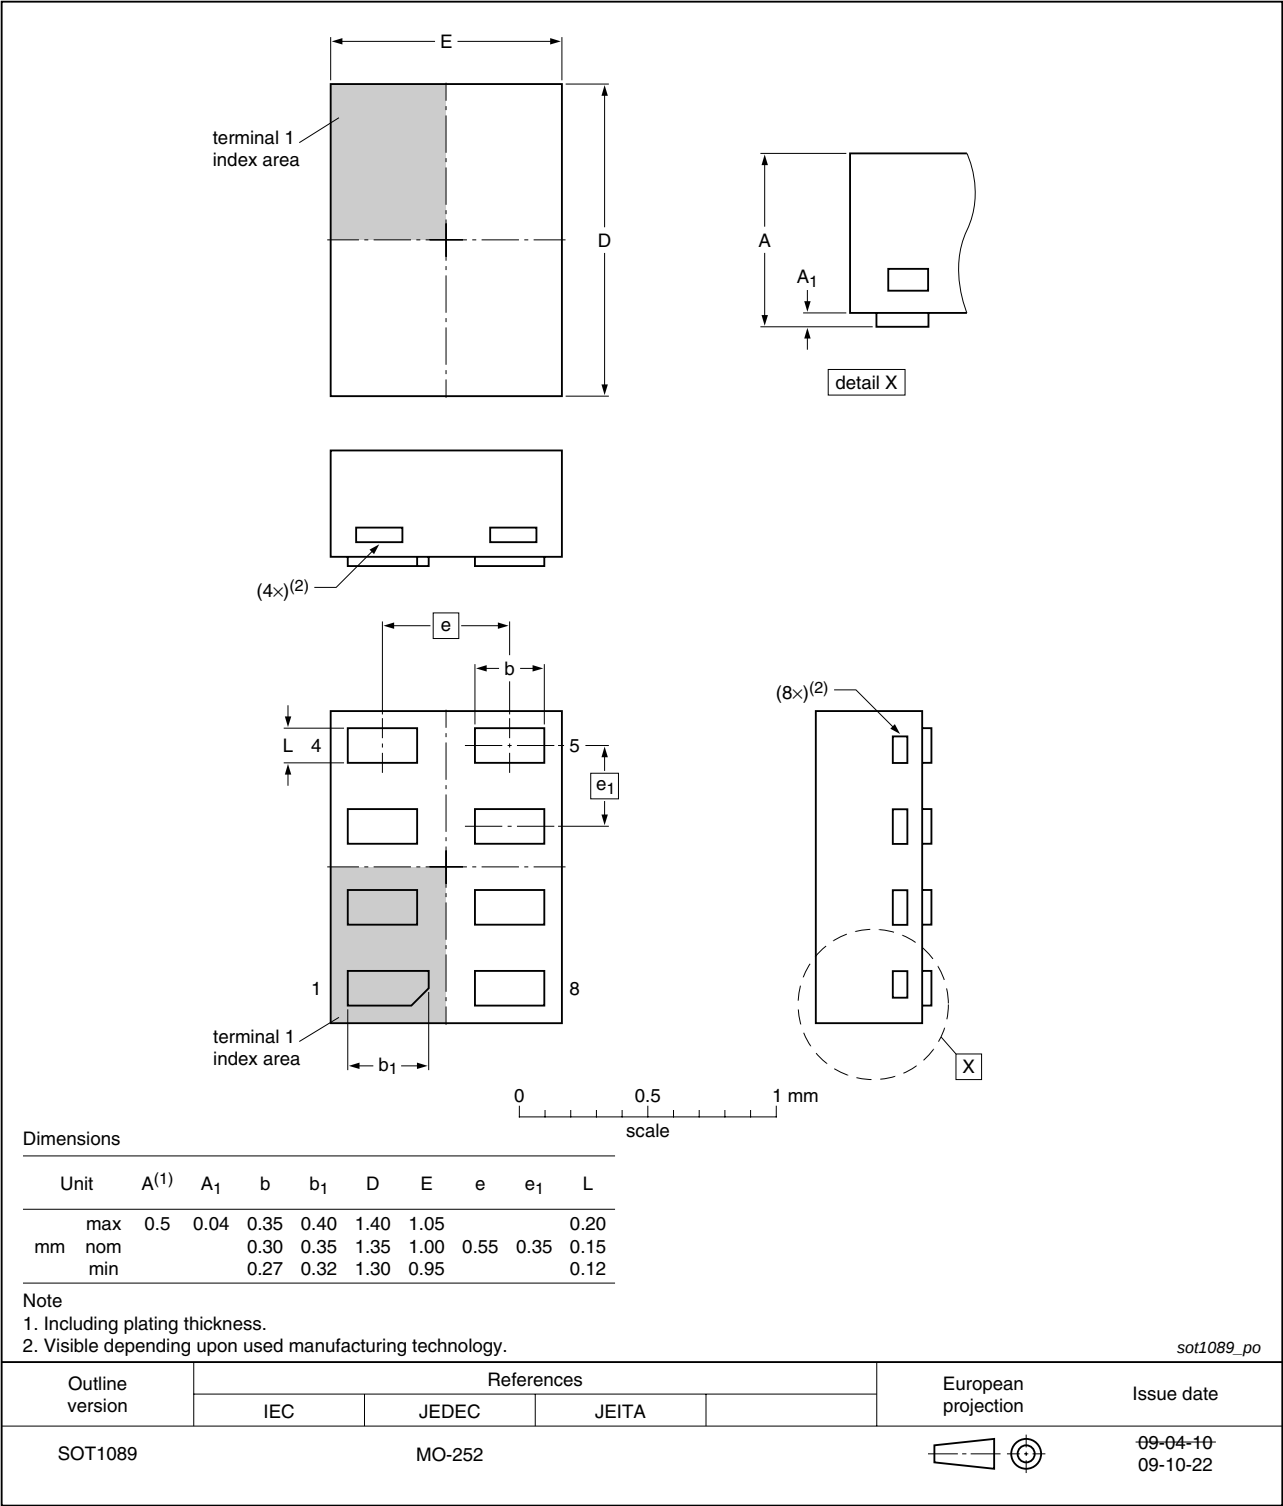
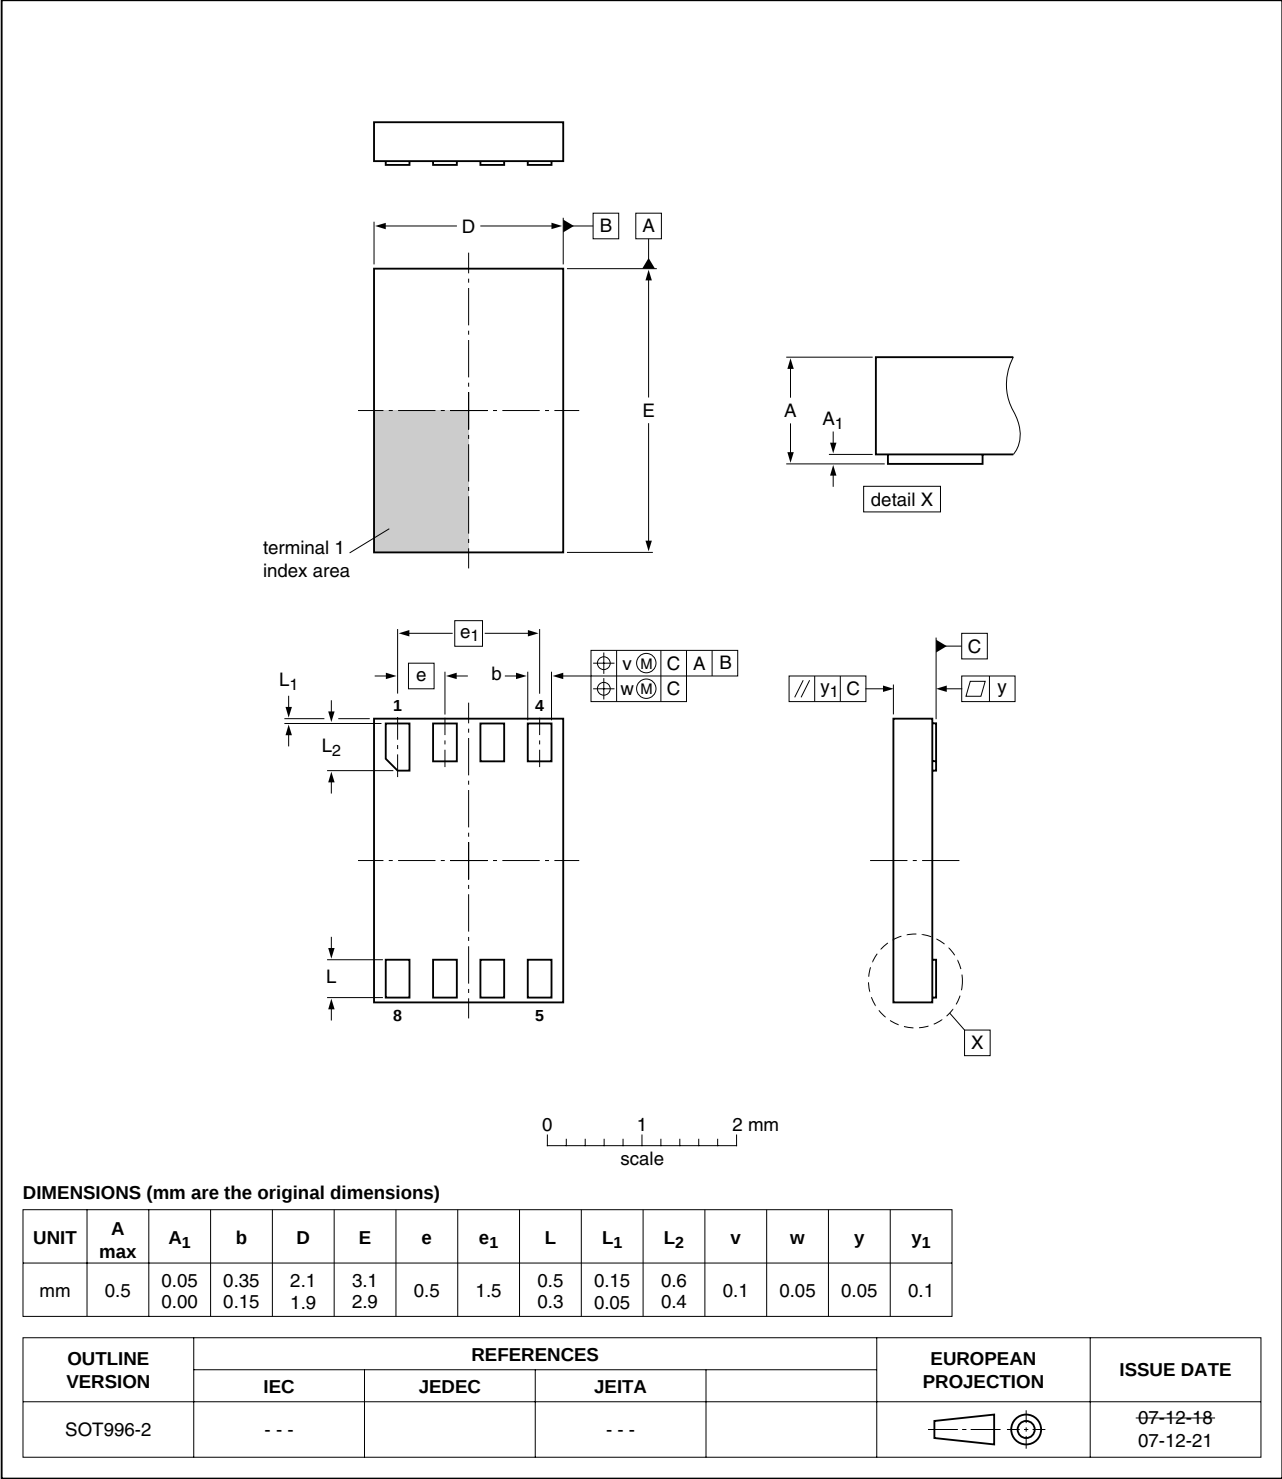

Fig 18. Package outline SOT1089 (XSON8)
Fig 19. Package outline SOT996-2 (XSON8U)
• Section 2 “Features”: – added XSON8 and XSON8U packages to last bullet item • Table 1 “Ordering information”: – added “PCA9306GF” package option – added “PCA9306GD1” package option • Section 5.1 “Pinning”: added PCA9306GF and PCA9306GD1 pin configurations. • Section 12 “Package outline”: – added Figure 18 “Package outline SOT1089 (XSON8)” – added Figure 19 “Package outline SOT996-2 (XSON8U)”